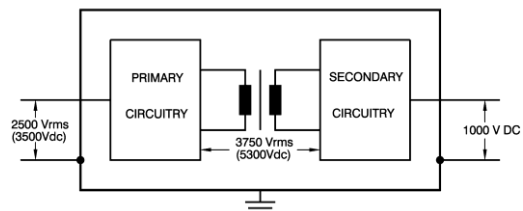

Figure 7.6: Insulation test voltages.
- The insulation of the separating components between input and output, such as transformers and opto-couplers, is tested before assembly during 1 minute at 3750 VRMS (5300VDC), see Figure 7.6.